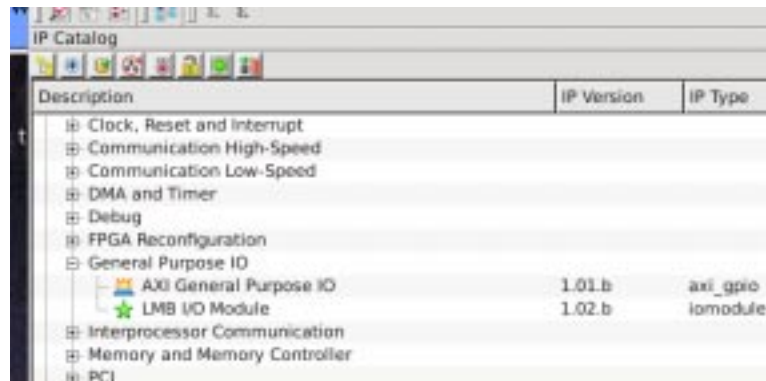

Figure 2: Adding an AXI GPIO.
5.3 An instance of an AXI GPIO will be added to the system. Expand the **General Purpose IO** tab on the left hand side under **IP Catalog** (refer to Figure 2) and double click the **AXI General Purpose IO**